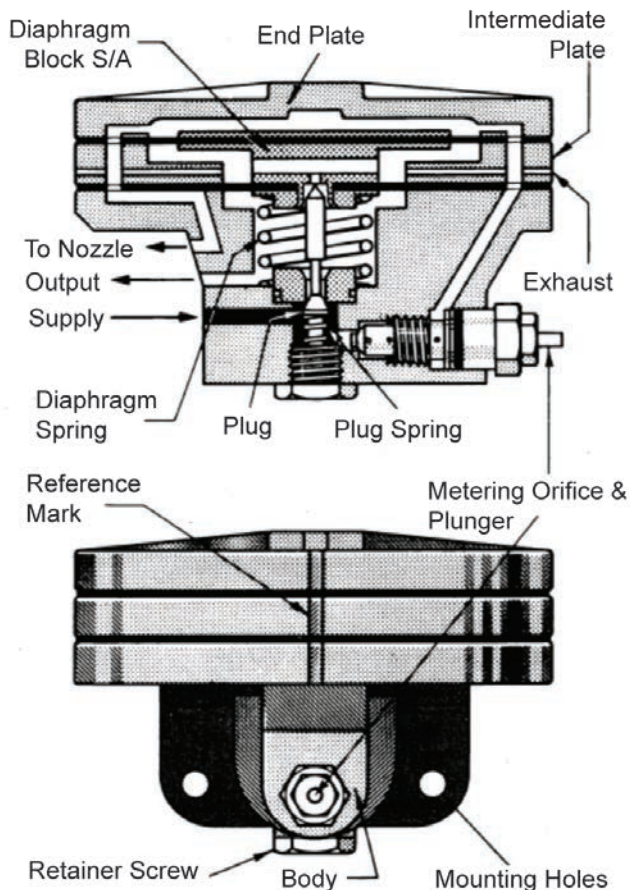

Figure 10 - Relay
Instrument Case Mounting (See Figure 10)
Relay (See Figure 10)
1. Assemble Diaphragm Block in Intermediate Plate as shown in Figure 10.